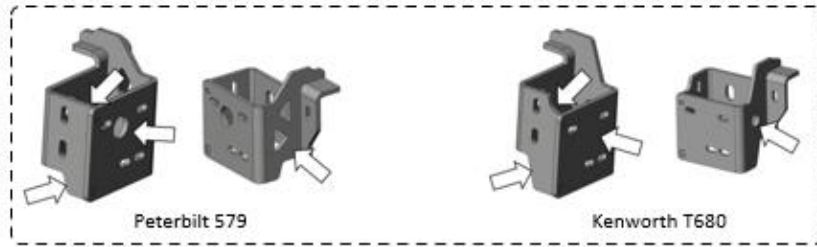
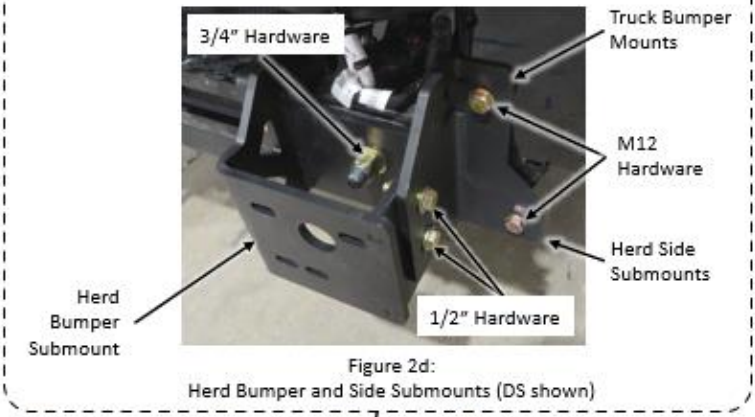

Figure 2g: Herd Bumper Submounts for Peterbilt 579 and Kenworth T680
Figure 2d:
3. Install the HERD Bumper Submounts using the provided 3/4" hardware, see Figure 2d. Then install the Herd Side Submounts with the supplied M12 and 1/2" hardware. **Torque the 1/2" hardware to 96 ft-lb, M12 hardware to 83 ft-lb and the 3/4" hardware to 240 ft-lb.** Please use the specific Herd Bumper Submount for your Truck Model as shown in Figure 2g.